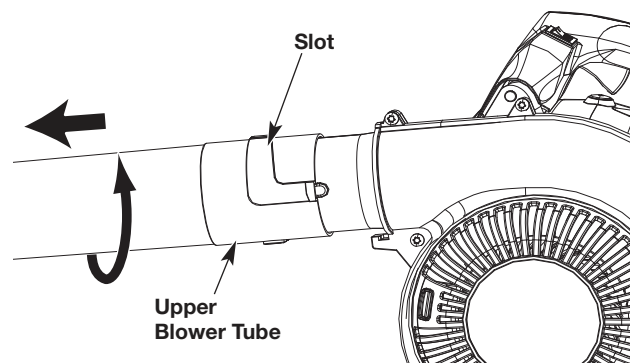

Fig. 3
1. Twist the upper blower tube counterclockwise until it unlocks from the blower outlet (Fig. 3).